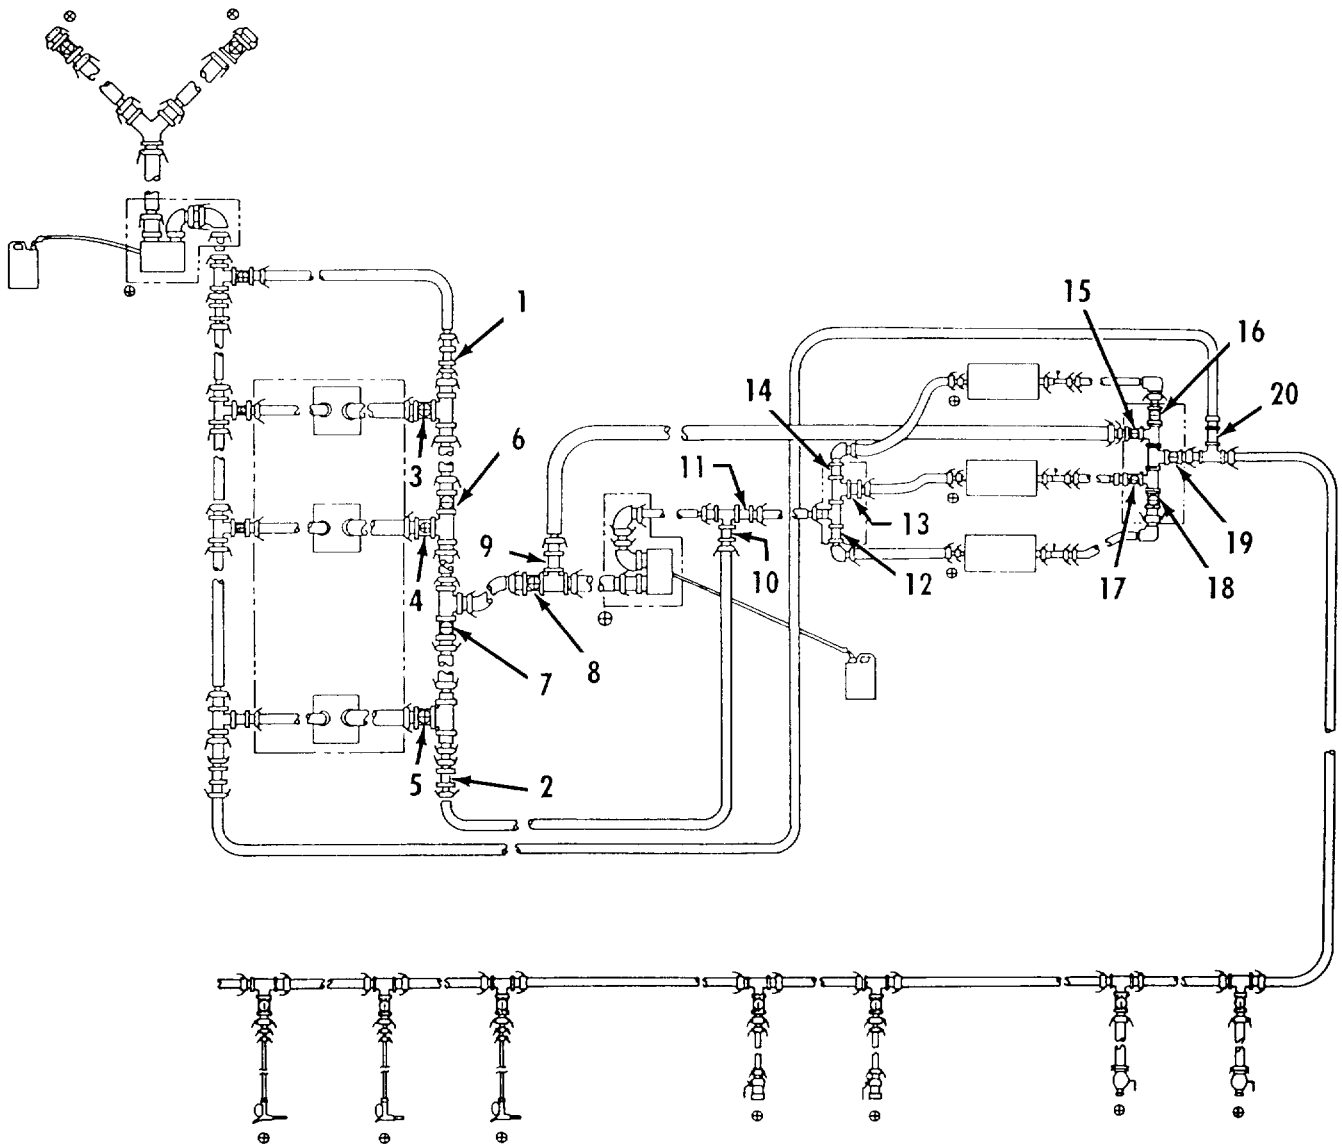

Figure 2-34. Fuel Distribution from Fuel Tanks to Off Loading Points.
- (4) Refuel Mode - Fuel Distribution from Fuel Tanks to Off Loading Points. Refer to figure 2-34.